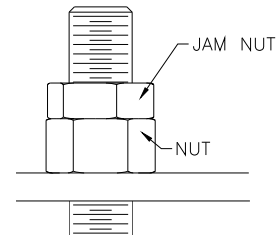

Fig 16 – Cable Jam Nut
- 24) Secure the cables to the top of the column with the nut and jam nut provided, **Fig 16.**